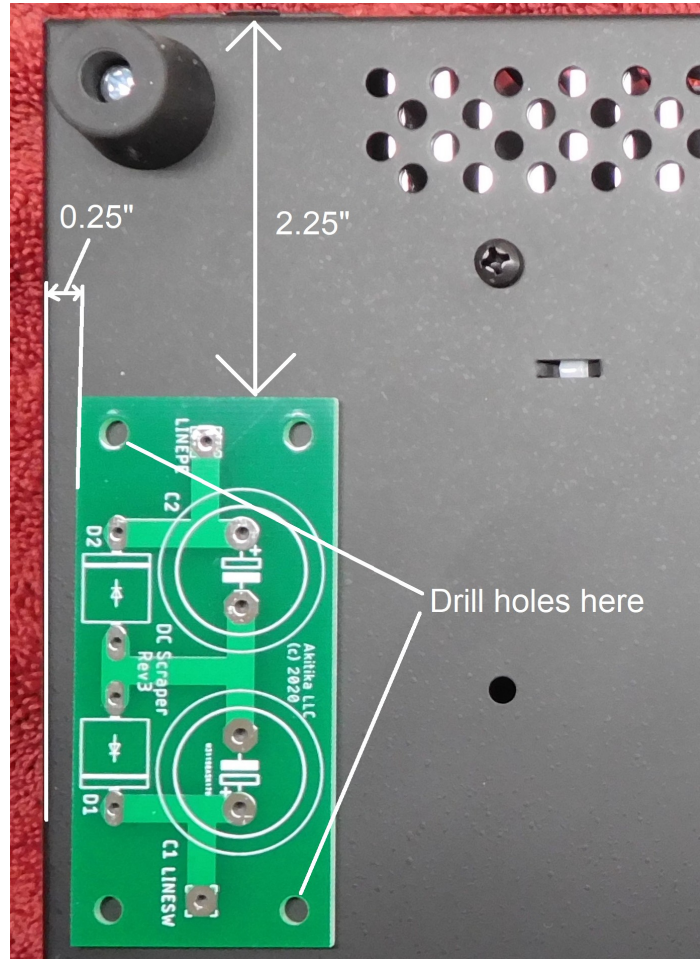

Figure 1-Using the PCB to locate the 2 new mounting holes. New production units will already have these holes drilled.
6. Remove the blank PCB from the parts bag, and locate it on the bottom of the GT-102 in the manner shown in Figure 1.
8. Use an awl or centerpunch to mark the center of the two indicated holes in Figure 1.